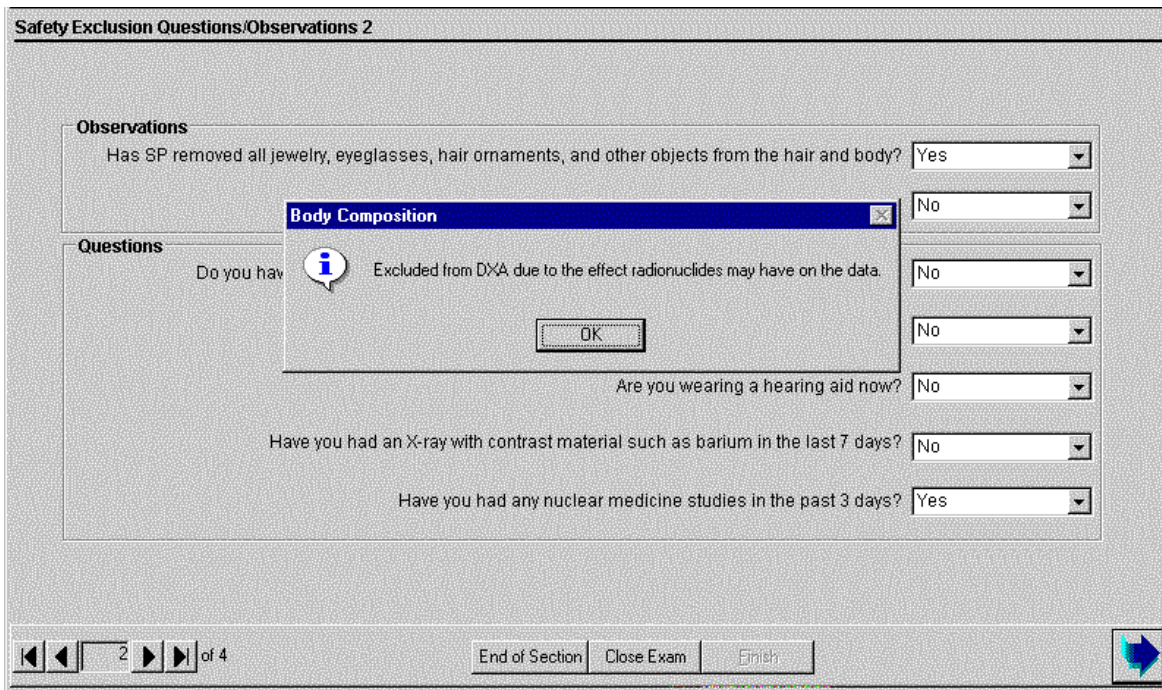

Figure 4-21. Safety/exclusion questions (nuclear medicine studies)
- Complete the remainder of the questions. When the next button is pressed, a message will be displayed: ‘Excluded from DXA due to the effect radionuclides may have on the data.’ Click OK to this message. See Figure 4-21.